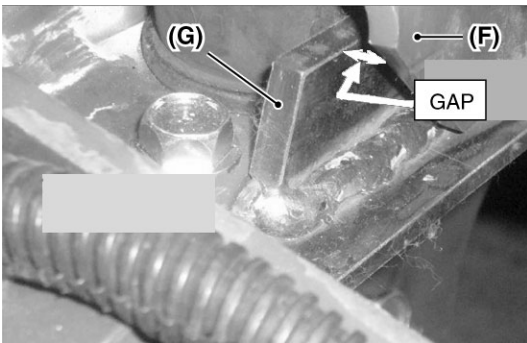

Fig. 10
9. Verify correct GAP between stopper (G) and engine support (F). GAP tolerance is 1-4 mm (0.04-0.1 in) Fig. 10